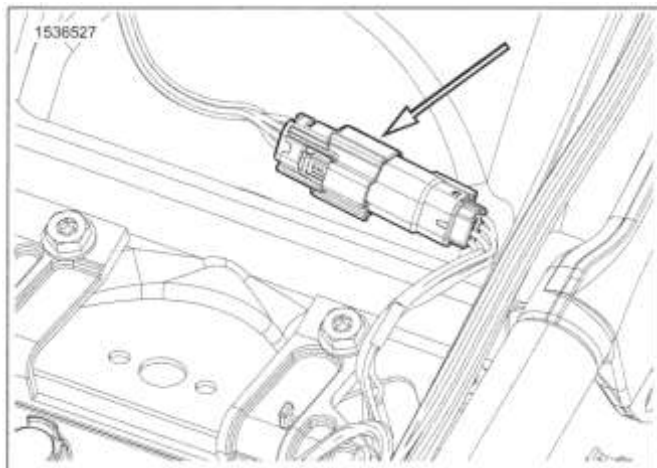

Figure 3-159. Rear Fender Lights Connector (models with under fender wiring)
See Figure 3-159. Disconnect rear lighting connector from front of fender. Release connector from fender.
4. All except FLHX, FLHXS, FLTRX, FLTRXS, FLHRXS: See Figure 3-159. Route connector through fender. Connect rear lighting connector to front fender.